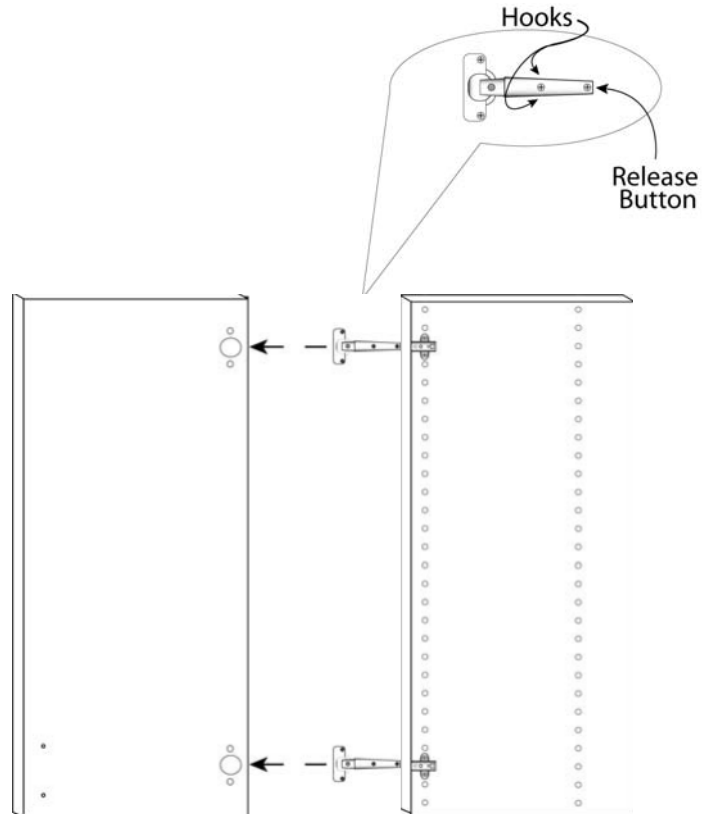

Fig. 1
For base units, the cabinets are delivered pre-assembled, with the doors attached. For ease of installation, you may wish to remove the doors while the cabinet is installed in its final position. (Hinges may be separated by squeezing the Release Button on the end of the hinge arm.) Under these circumstances, you may only need to re-fasten the door to complete installation, connecting the two halves of the hinge assembly (*Fig. 1*).
2. Insert each hinge into a set of three (3) holes on the back of each door, then turn the fastening screws one quarter turn clockwise (as shown with arrows on the hinge) to tighten in place. (*See Fig. 1.*)